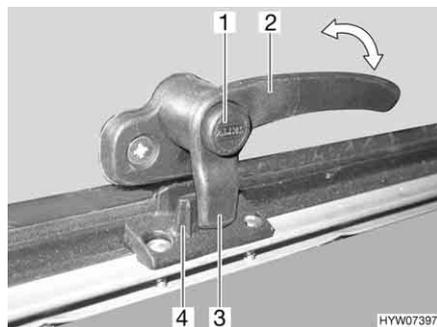
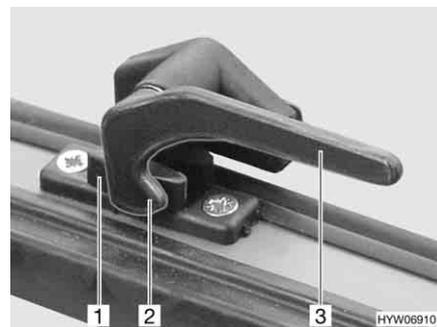

Fig. 74 Catch lever with safety knob in "closed" position
Fig. 75 Catch lever in "closed" position
- Press and hold the security button (Fig. 74,1), if present.
- Turn the catch lever (Fig. 74,2 or Fig. 75,3) a quarter turn towards the centre of the window.
- Turn the catch lever (Fig. 74,2 or Fig. 75,3) a quarter turn towards the window frame. The locking catch (Fig. 74,3 or Fig. 75,2) on the catch lever is entirely on the inner side of the window catch (Fig. 74,4 or Fig. 75,1).
- Firmly closed (Fig. 74 and Fig. 75)